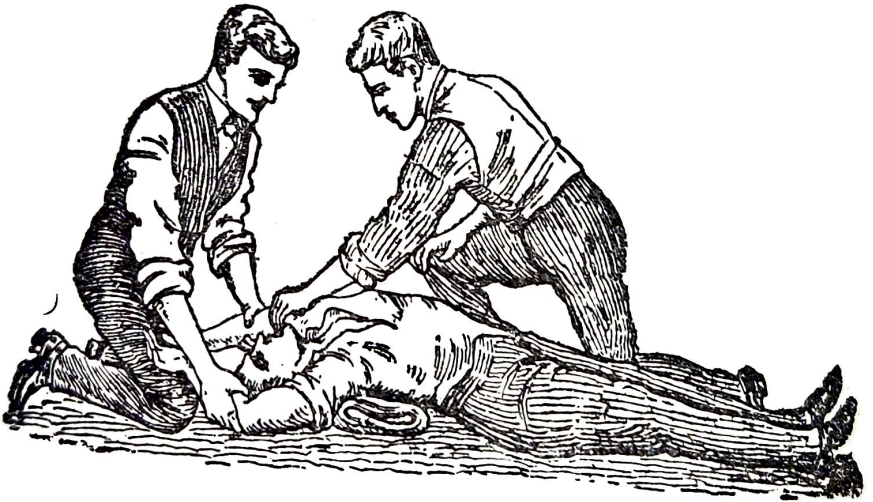

Fig. 5. Inspiration.
- (i) **TO INDUCE INSPIRATION.**—Kneel at a convenient distance behind the victim's head, and, grasping his forearms just below the elbows, draw the arms upwards, outwards, and towards you, with a sweeping movement, making the elbow touch the ground; the cavity of the chest is thus enlarged and air is drawn into the lungs. (See Fig. 5).